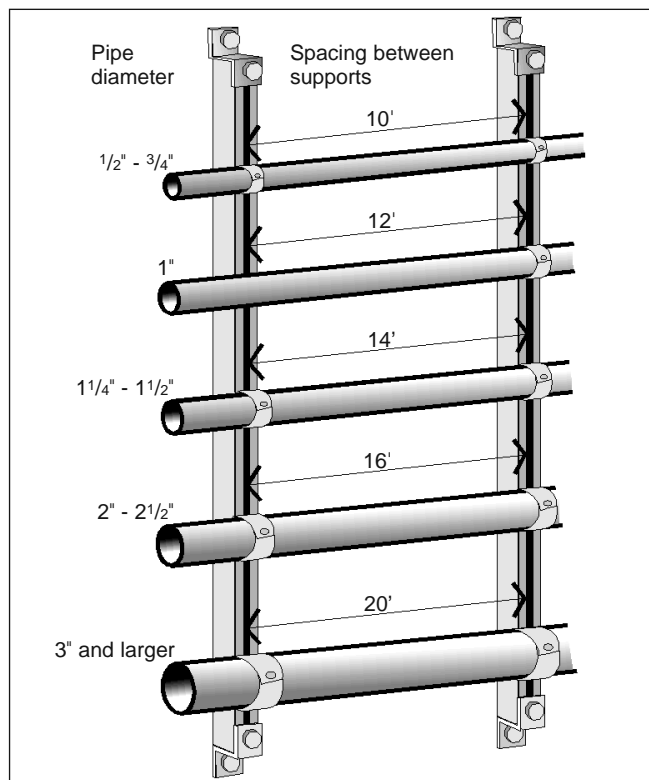

Figure 4-6: Spacing of supports for rigid steel conduit
NEC Table 344.30(B)(2) specifies a maximum distance of 16 feet between 2½ inch rigid conduit supports. See Figure 4-6.